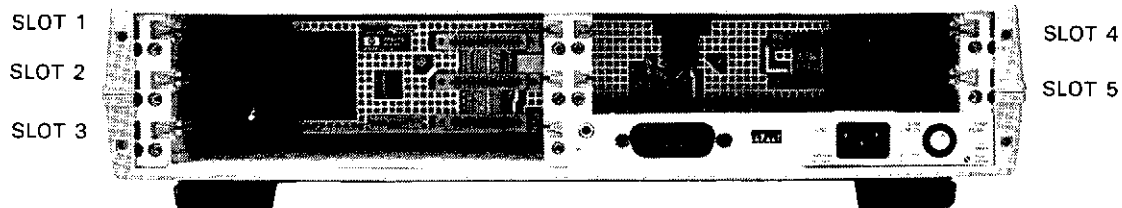

Figure 12-4. HP 3488A Rear Panel; Available Slots
3. Determine the slot in which you will install the module. Figure 12-4 illustrates the five slots that are available for installing modules. You can install the HP 44476 in any one of the five slots.